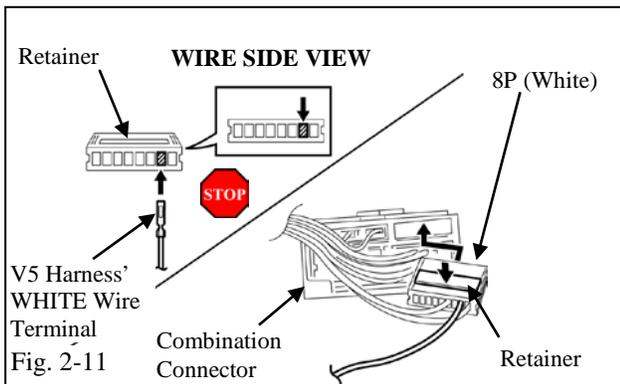

Fig. 2-11
- (q) Insert the terminal at the end of the V5 harness' WHITE wire into the seventh space from the left of the 8P connector, then close the retainer. Refit the white 8P connector to the combination connector. (Fig. 2-11)
- (1) Turn the connector so the wires face you and the retainer is on top.
- (2) Verify the correct opening is chosen.
- (3) Verify the terminal is inserted and seated properly. The terminal should not come out when pulled lightly from the back. If the terminal comes off, then push it in again.